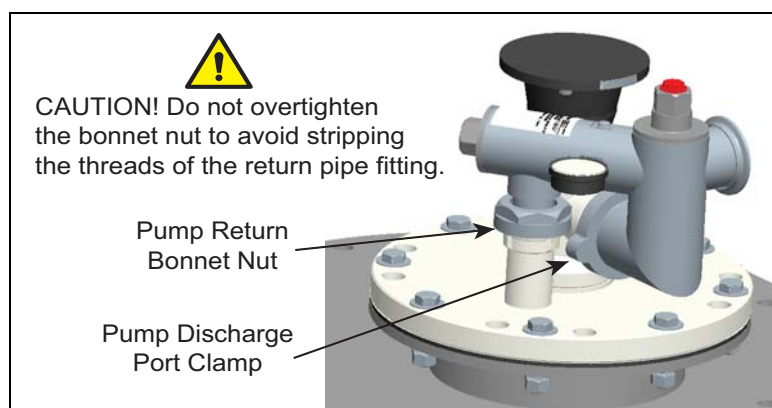

Figure 12. Tightening The Manifold Return Line Bonnet Nut
6. Hand tighten the manifold's return line bonnet nut, then using a wrench, carefully tighten the bonnet nut an additional 1/2 turn (see Figure 12). Counter this torque by placing a wrench around the collar bushing on the return pipe fitting. Thread sealant is not required on this thread.